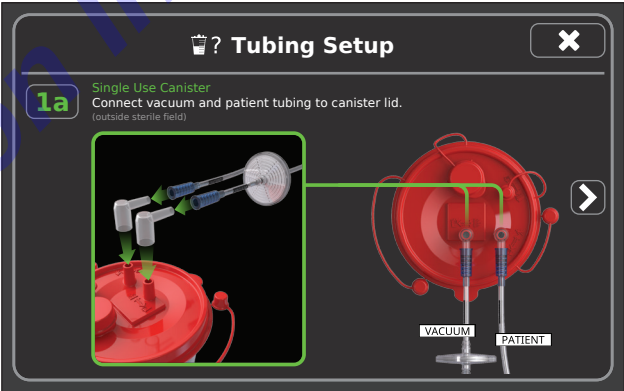

Figure 43 – Tubing Setup Screen
- 3. Touch the NEXT button or PREVIOUS button to navigate through the setup information (Figure 43).